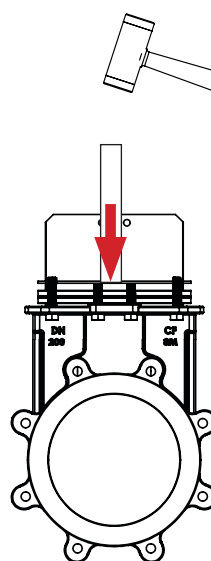

Figure 7
24.7.7 Cut packing (as per table 1),lubricate and install Install the packing in both sides of the gate , one row at a time. Feed the ends into the stuffing box. Use the flat bar and hammer to tamp packing into position – working from centre outwards (Figure 7)